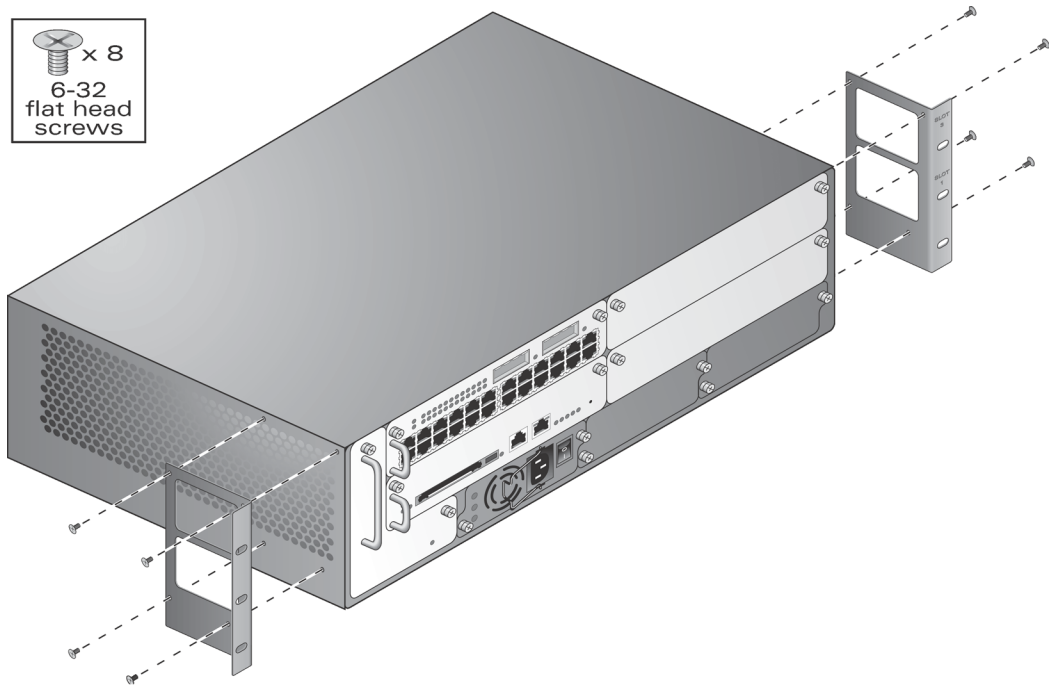

FIGURE 3-2 Attaching the Rack Mounting Brackets
Step 2 Attach the rack mounting brackets to the switch chassis as shown in Figure 3-2.